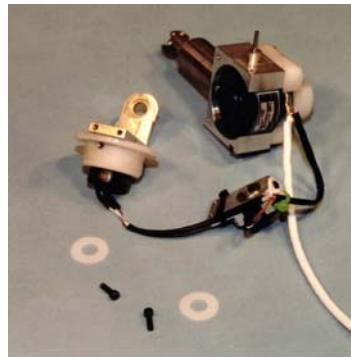

Figure 10.8- Separation of
7. Carefully separate Rotary Potentiometer #1, DGSP Right Arm and String Potentiometer Assembly (T1DPM300) from the DGSP yoke left arm, as shown in **Figure 10.8**. Two Teflon washers will fall off the lower trunnions of the string potentiometer assembly.